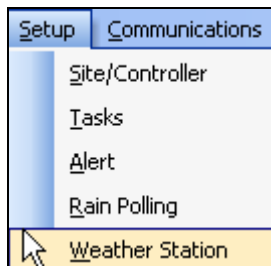

Figure 10.0.1
1. In the toolbar at the top of the screen select **Setup** and then scroll down to the words **Weather Station** and click on it (Figure 10.0.1).